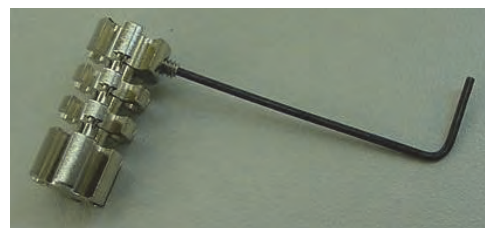

Figure 8.13. Inserting the Foam Buster set
- Using the supplied Allen wrench, insert the set screw so it sits flush with the Foam Buster piece (Figure 8.13).